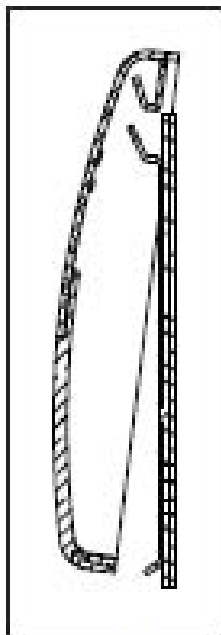

Figure 7A
13. Hook the faceplate assembly onto the sub-plate by first sliding the upper catch (located at the top of the backside of the faceplate) over the upper tab of the sub-plate. Press the faceplate assembly downward onto the sub-plate until it is firmly seated on the upper tab. See Figure 7A and 7B.